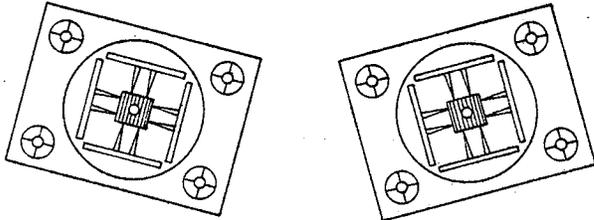

Fig. 16 Tilted View Finder Picture
- (a) If picture in view finder is tilted as shown in Fig. 16, loosen three screws (j, k, l) and adjust angle of prism block until picture is properly positioned.